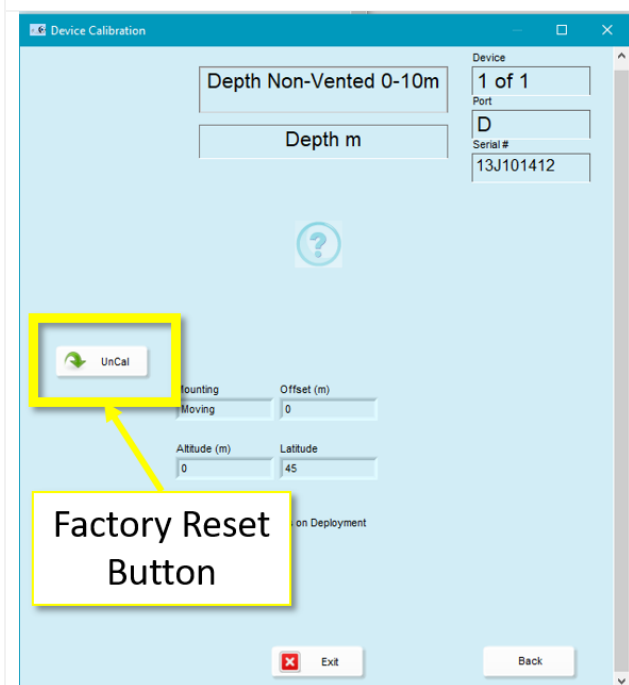

Figure 177. The "UnCal" Button Restores Sensor Settings
**STEP 2** | In Advanced settings, select "**UnCal**" (Figure 177).